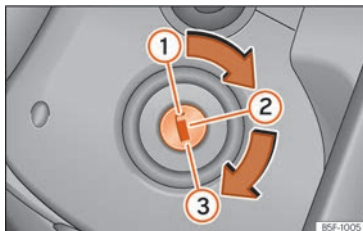

Fig. 216 Ignition key positions.
In this position » **Fig. 216 ①** the ignition and the engine are off and the steering may be locked.
- Turn the ignition key to the starting position » **Fig. 216 ③**.
- Turn the ignition key to position » **Fig. 216**  ②. The warning lamp  will light for engine pre-heating.
- When the lamp turns off, turn the ignition key to position ③ to start the engine. Do not press the accelerator.
- Turn the ignition key to position » **Fig. 216** .
- Remove the ignition key in position » **Fig. 216**  » .